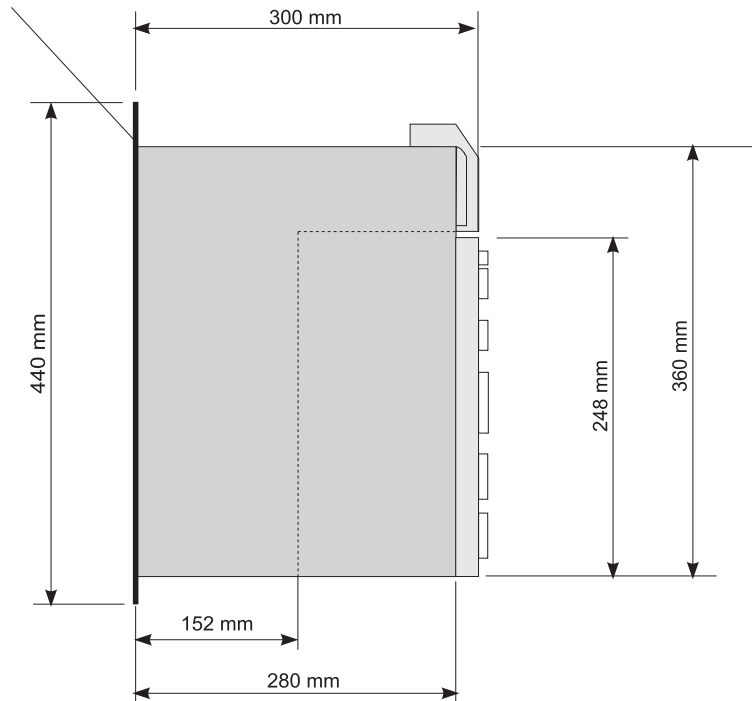

Figure 7: Drilling templates/installation space
1. Attach the mounting backplate to the control cabinet (for sizes, see ▶Figure 7◀ on page 45).